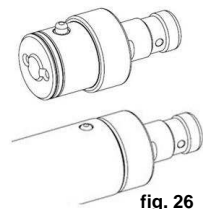

fig. 26
- Insert the inlet part into the whipping pipe. (fig. 26)